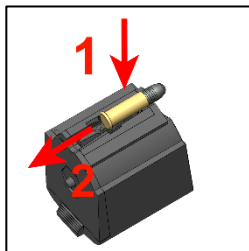

Figure 4
- Press the rim of the cartridge into the slot at the top of the magazine – Figure 4.